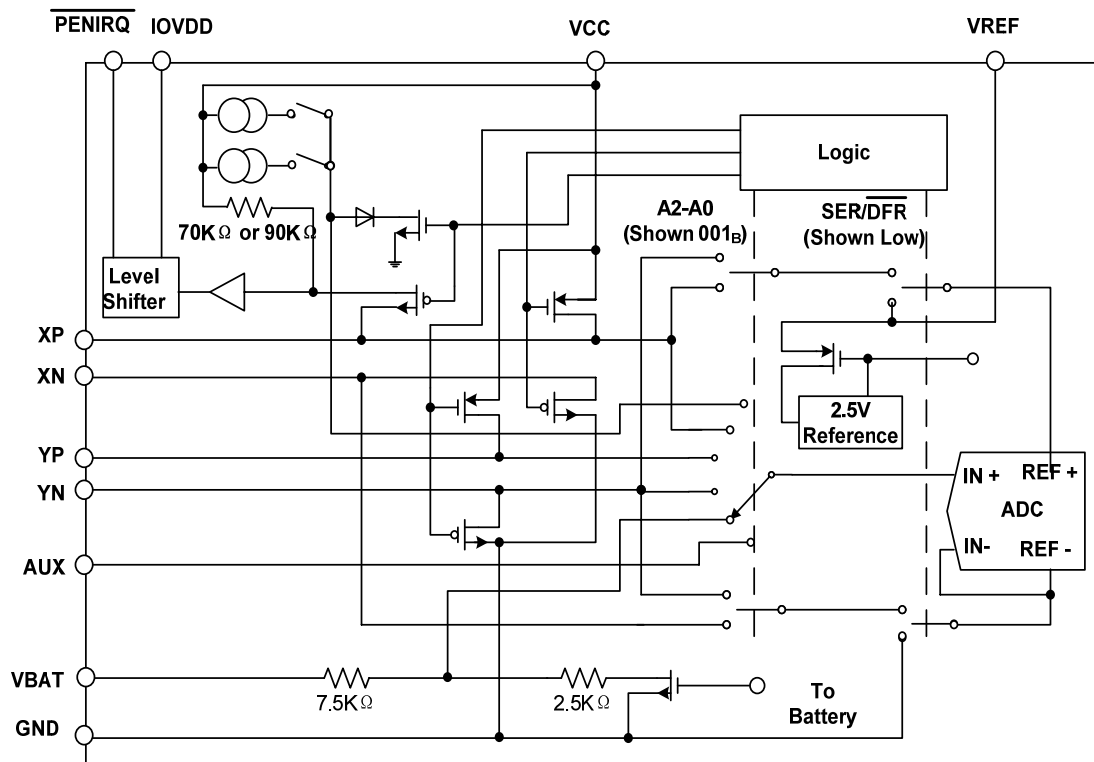
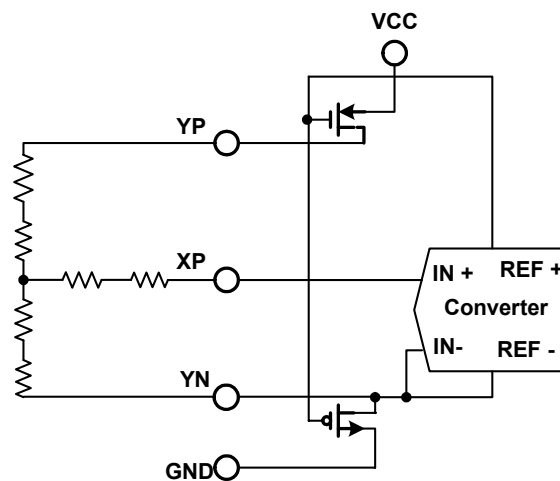

Figure 5. Simplified Diagram of Analog Input
Figure 8. Simplified Diagram of Differential Reference (SER/DFR low, Y switches enabled, X+ is analog input)
Figure 5 shows a block diagram of the input multiplexer on the XPT2046, the differential input of the ADC, and the differential reference of the converter. Table 4 and Table 5 show the relationship between the A2, A1, A0, and SER/DFR control bits and the configuration of the XPT2046. The control bits are provided serially via the DIN pin—see the *Digital Interface* section of this data sheet for more details.
The voltage difference between +REF and –REF (see Figure 5) sets the analog input range. The XPT2046 operates with a reference in the range of 1V to +VCC. There are several critical items concerning the reference input and its wide voltage range. As the reference voltage is reduced, the analog voltage weight of each digital output code is also reduced.
This situation can be remedied as shown in Figure 8. By setting the SER/DFR bit low, the +REF and –REF inputs are connected directly to Y+ and Y–, respectively, which makes the analog-to-digital conversion ratiometric. The result of the conversion is always a percentage of the external resistance, regardless of how it changes in relation to the on-resistance of the internal switches. Note that there is an important consideration regarding power dissipation when using the ratiometric mode of operation (see the *Power Dissipation* section for more details). As a final note about the differential reference mode, it must be used with +VCC as the source of the +REF voltage and cannot be used with VREF. It is possible to use a high-precision reference on VREF and single-ended reference mode for measurements which do not need to be ratiometric. In some cases, it is possible to power the converter directly from a precision reference. Most references can provide enough power for the XPT2046, but might not be able to supply enough current for the external load (such as a resistive touch screen).
**Addressing**—The next three bits (A2, A1, and A0) select the active input channel(s) of the input multiplexer (see Table 1, Table 2, and Figure 5), touch screen drivers, and the reference inputs.
**SER/DFR**—The SER/DFR bit controls the reference mode, either single-ended (high) or differential (low). The differential mode is also referred to as the ratiometric conversion mode and is preferred for X-Position, Y-Position, and Pressure-Touch measurements for optimum performance. The reference is derived from the voltage at the switch drivers, which is almost the same as the voltage to the touch screen. In this case, a reference voltage is not needed as the reference voltage to the ADC is the voltage across the touch screen. In the single-ended mode, the converter reference voltage is always the difference between the VREF and GND pins (see Table 1 and Table 2, and Figure 5 through Figure 8, for further information).